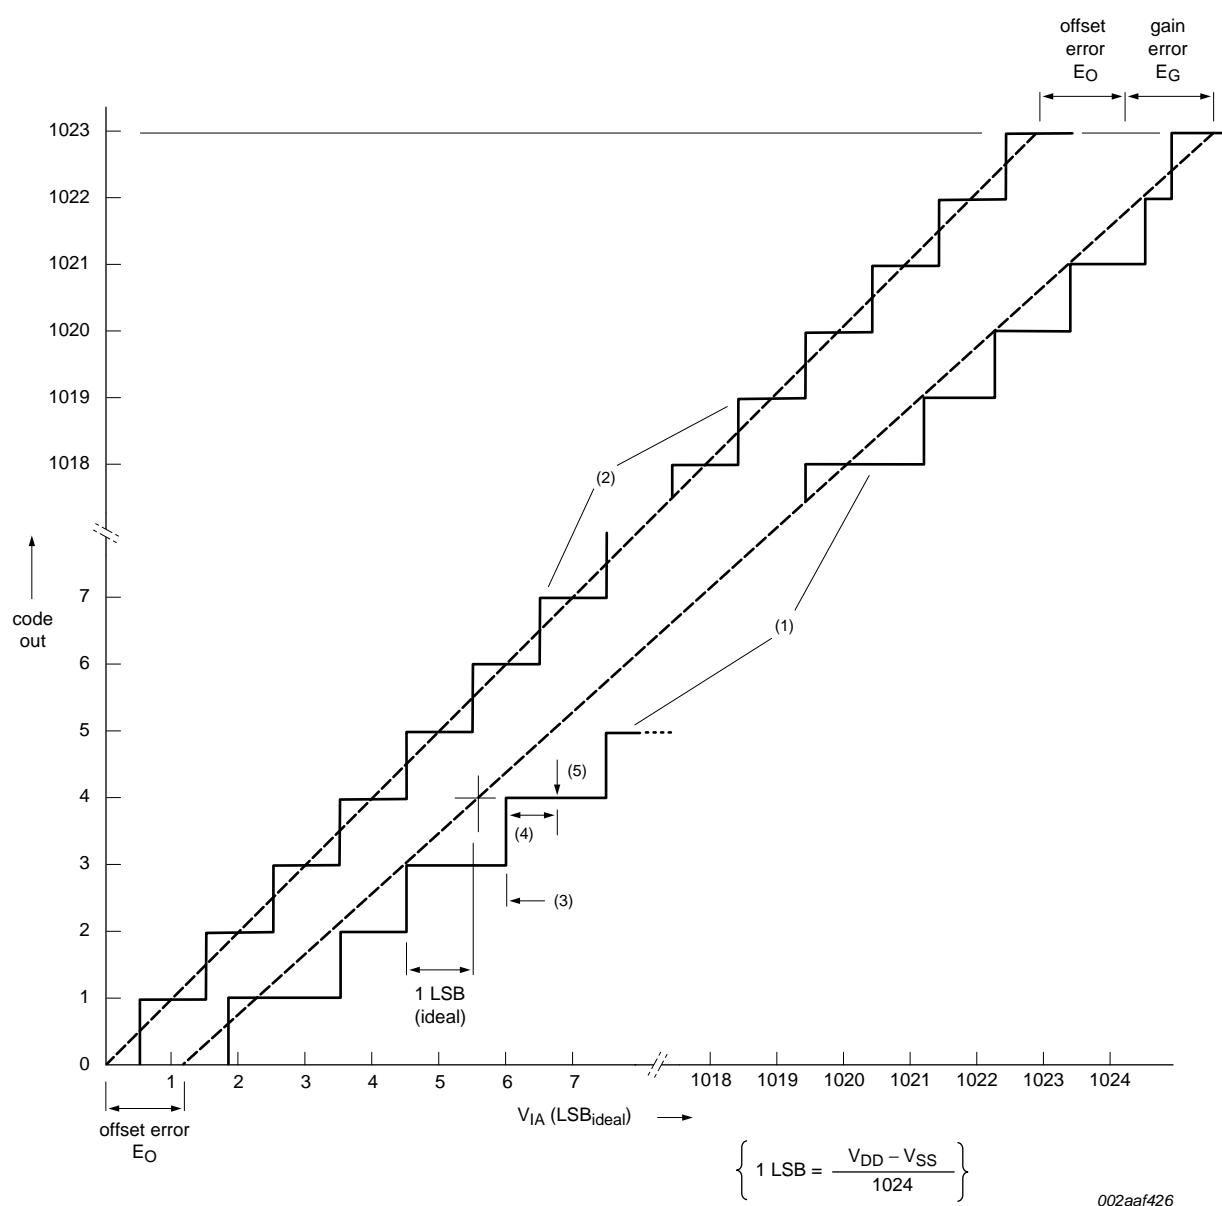

Fig 7. ADC characteristics
- [2] The differential linearity error (E_D) is the difference between the actual step width and the ideal step width. See Figure 7.
- [3] The integral non-linearity ($E_{L(adj)}$) is the peak difference between the center of the steps of the actual and the ideal transfer curve after appropriate adjustment of gain and offset errors. See Figure 7.
- [4] The offset error (E_O) is the absolute difference between the straight line which fits the actual curve and the straight line which fits the ideal curve. See Figure 7.
- [5] The gain error (E_G) is the relative difference in percent between the straight line fitting the actual transfer curve after removing offset error, and the straight line which fits the ideal transfer curve. See Figure 7.
- [6] The absolute error (E_T) is the maximum difference between the center of the steps of the actual transfer curve of the non-calibrated ADC and the ideal transfer curve. See Figure 7.